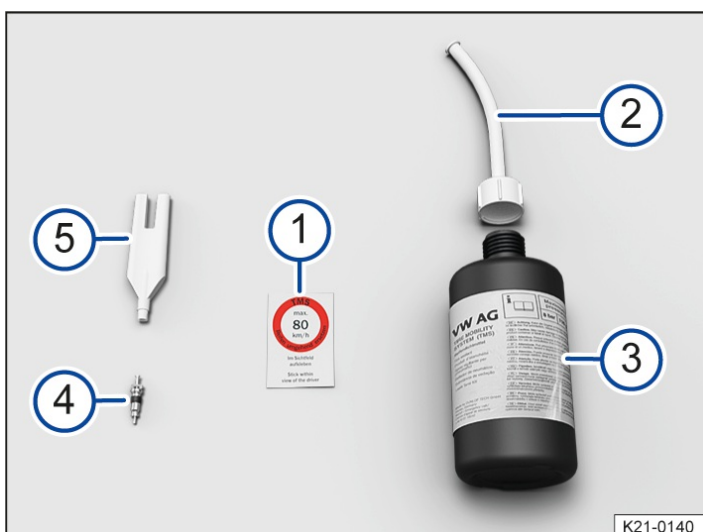

Fig. 1 General example: components of the tire mobility set.
- ① Label with the speed specification "max. 50 mph" or "max. 80 km/h".
- ② Tire inflation hose with plug
- ③ Tire filler bottle
- ④ Replacement valve insert
- ⑤ Valve insert tool
The valve insert tool → *fig. 1* ⑤ has a slot on the bottom end where the valve insert will fit. Only in this way can the valve insert be removed from the tire valve and reinstalled. This also applies to the replacement valve insert ④.